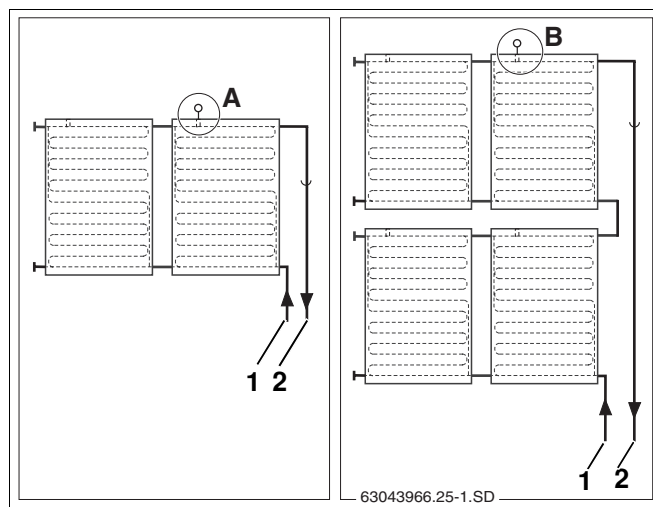

Fig. 53 Collector sensor installation location (schematic)
Observe the installation location for single or dual row collector systems (Fig. 53).
The collector sensor must be fitted in the collector nearest to the flow connection (Fig. 53, **Item 2**).
- Insertion point (Fig. 53, **Item A**) for single row collector systems.
- Insertion point (Fig. 53, **Item B**) for dual row collector systems.